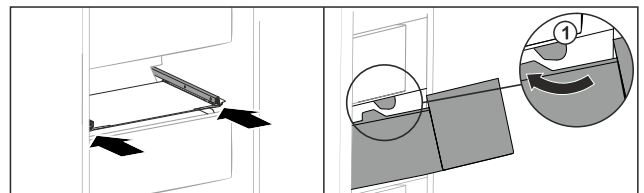

Fig. 166
- Guide drawer around the stoppers Fig. 166 (1).